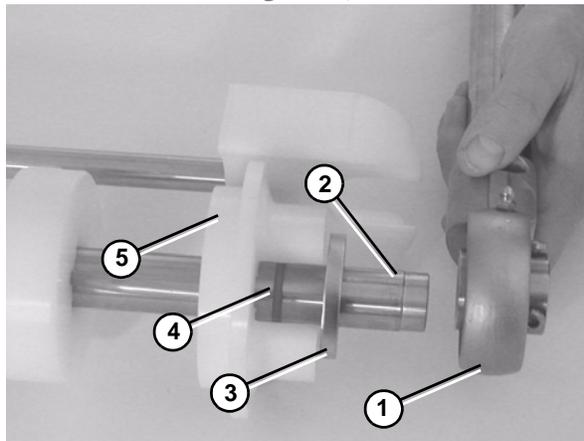

Figure 66
- Attach the flanged pucks (Figure 66, item 5), the O-rings (Figure 66, item 4), the washers (Figure 66, item 3) and the bearing shaft assemblies (Figure 66, item 1) onto the idler shaft (Figure 66, item 2).